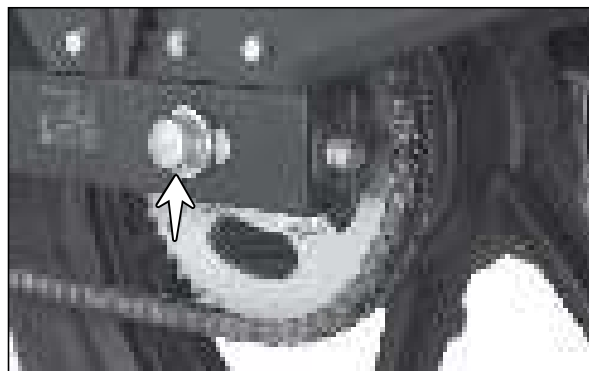

Fig. 6.87
- Pull out the rear axle by gently tapping. (Fig. 6.87)